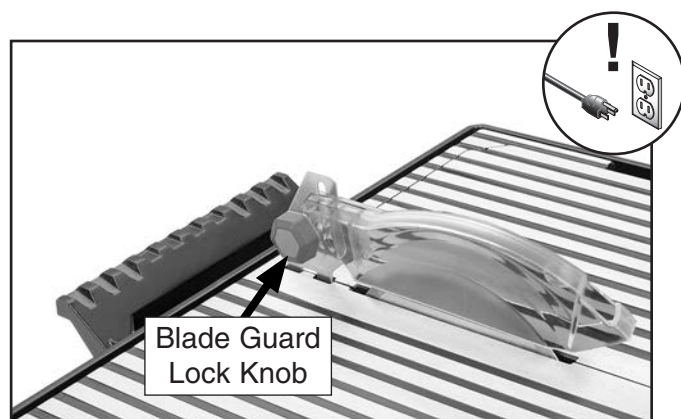

Figure 33. Splash hood lock knob location.
6. Loosen splash hood lock knob and adjust hood to height of tile (see **Figure 33**). Hood should be as close to tile as possible without touching.